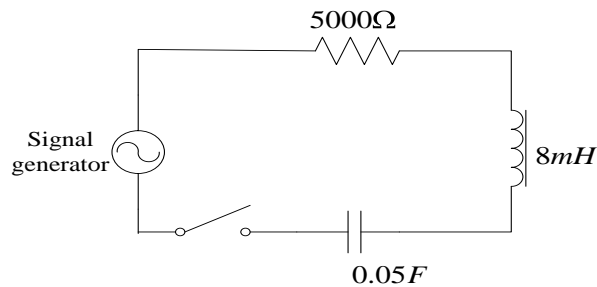

Fig. 2
- 1) Disconnect the power supply from the circuit in fig. 1 and connect the circuit as shown in fig. 2. **GET YOUR CIRCUIT APPROVED.**